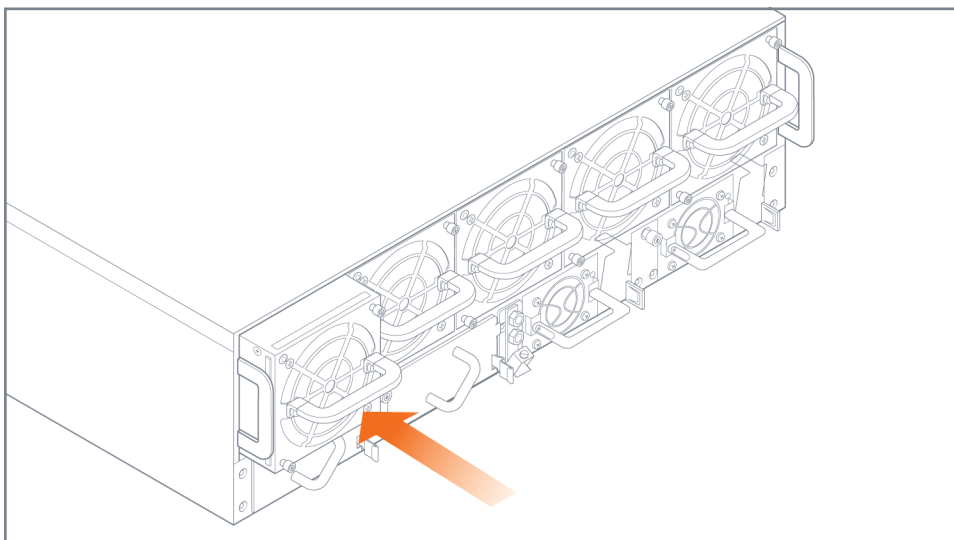

Figure 14 Fan Module Insertion
4. Insert the fan modules into the fan tray one at a time as shown in Figure 14 Fan Module Insertion.